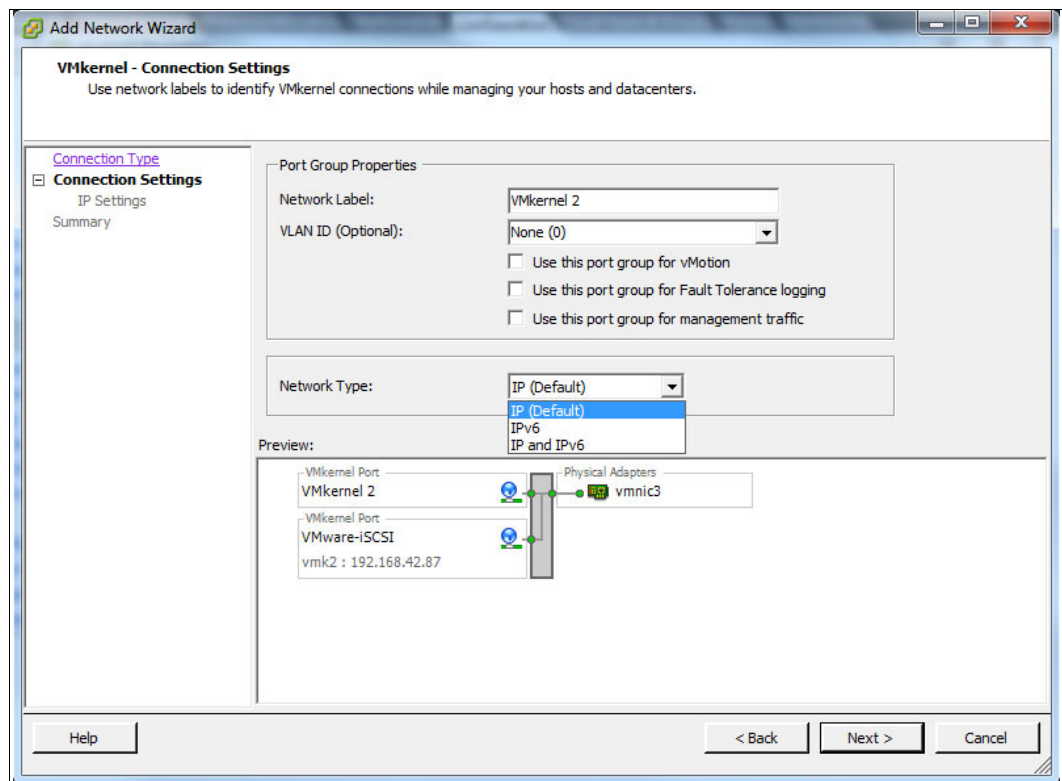

Figure 7-38 VMkernel: Connection Settings
4. Enter the name for the VMkernel port group and optional VLAN ID if you are using VLAN in your network for iSCSI. If you are using IPv6 for your network, select **IPv6** or **IP and IPv6** and click **Next**. Figure 7-38 shows the configuration window.